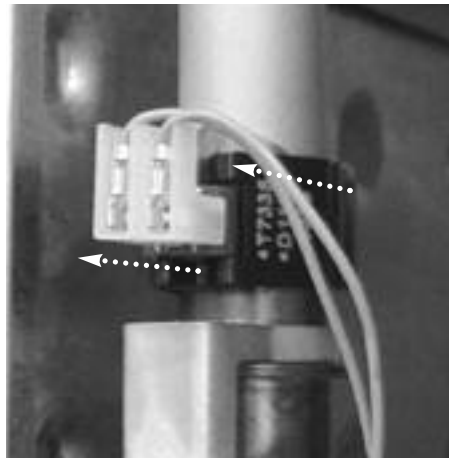

Fig. 96
2. Pull off the NTC connections and remove the NTC from the pipe by releasing its securing clip (see Fig. 96).